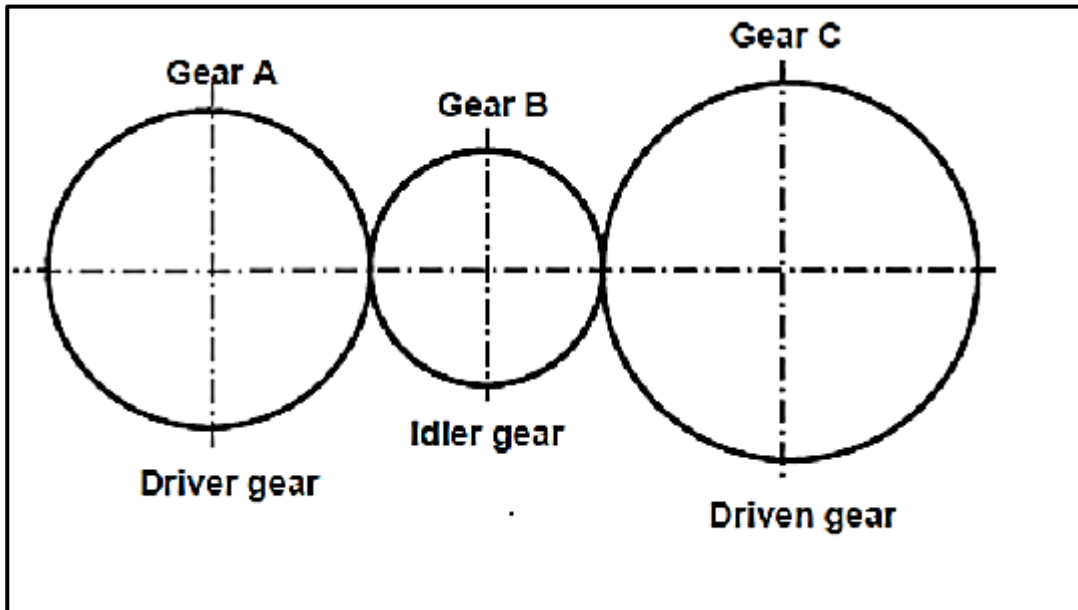

FIGURE 11.6
11.6 The gear system in FIGURE 11.6 below is used to control a hoisting device. The driver gear has 56 teeth and rotates at 700 r/min. The idler gear used to change the direction, rotates at 980 r/min. The driven gear has 64 teeth.